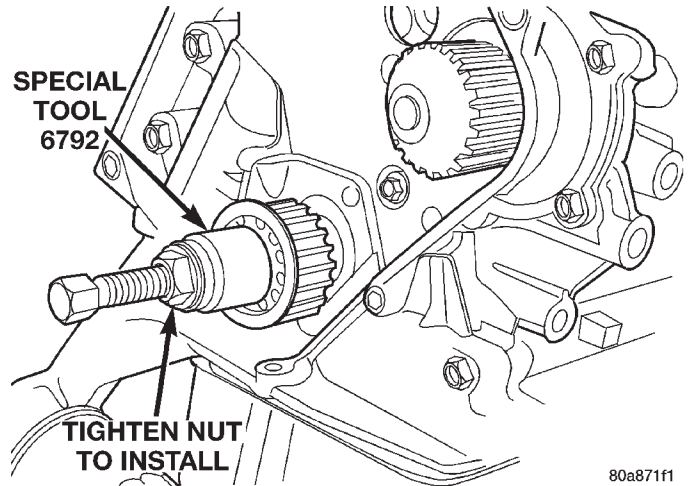

Fig. 89 Crankshaft Sprocket—Installation
- (6) Install crankshaft sprocket using Special Tool 6792 (Fig. 89).
- (7) Install oil pump pick-up tube.
- (8) Install oil pump. Refer to procedure in this section.
- (9) Install Timing Belt. Refer to procedure in this section.